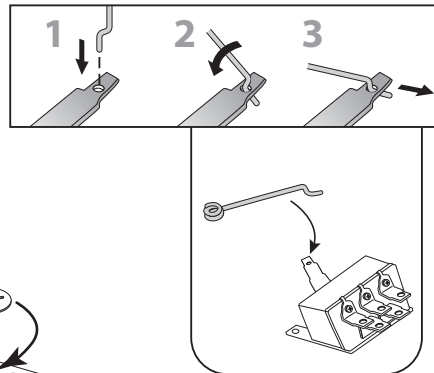

FIGURE 5
- 3) Attach the included blower switch connecting wire (see figure 5).